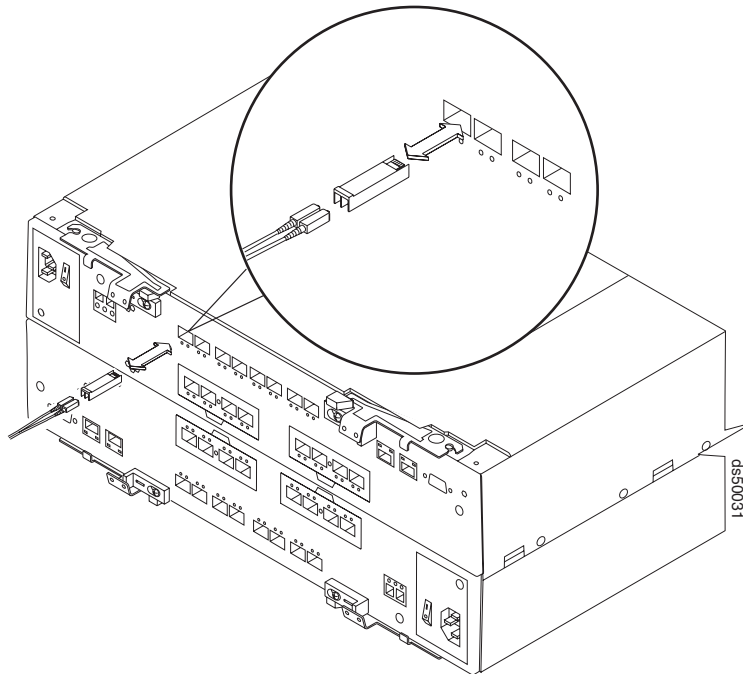

Figure 81. Installing an SFP module and LC-LC cable in a DS5100 or DS5300
1. Install an SFP module in the drive mini hub port on the back of the Storage Subsystem, as shown in Figure 81 on page 130.